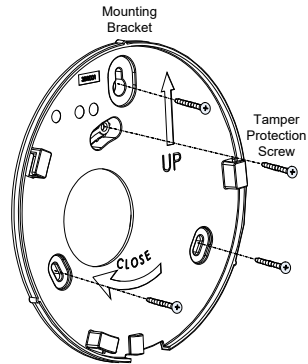

Fig. 2
3. Hold the mounting bracket against the wall (direction arrow pointing up) and mark the locations of the mounting holes (Fig. 2). Drill the desired mounting holes and insert screw anchors (if required).